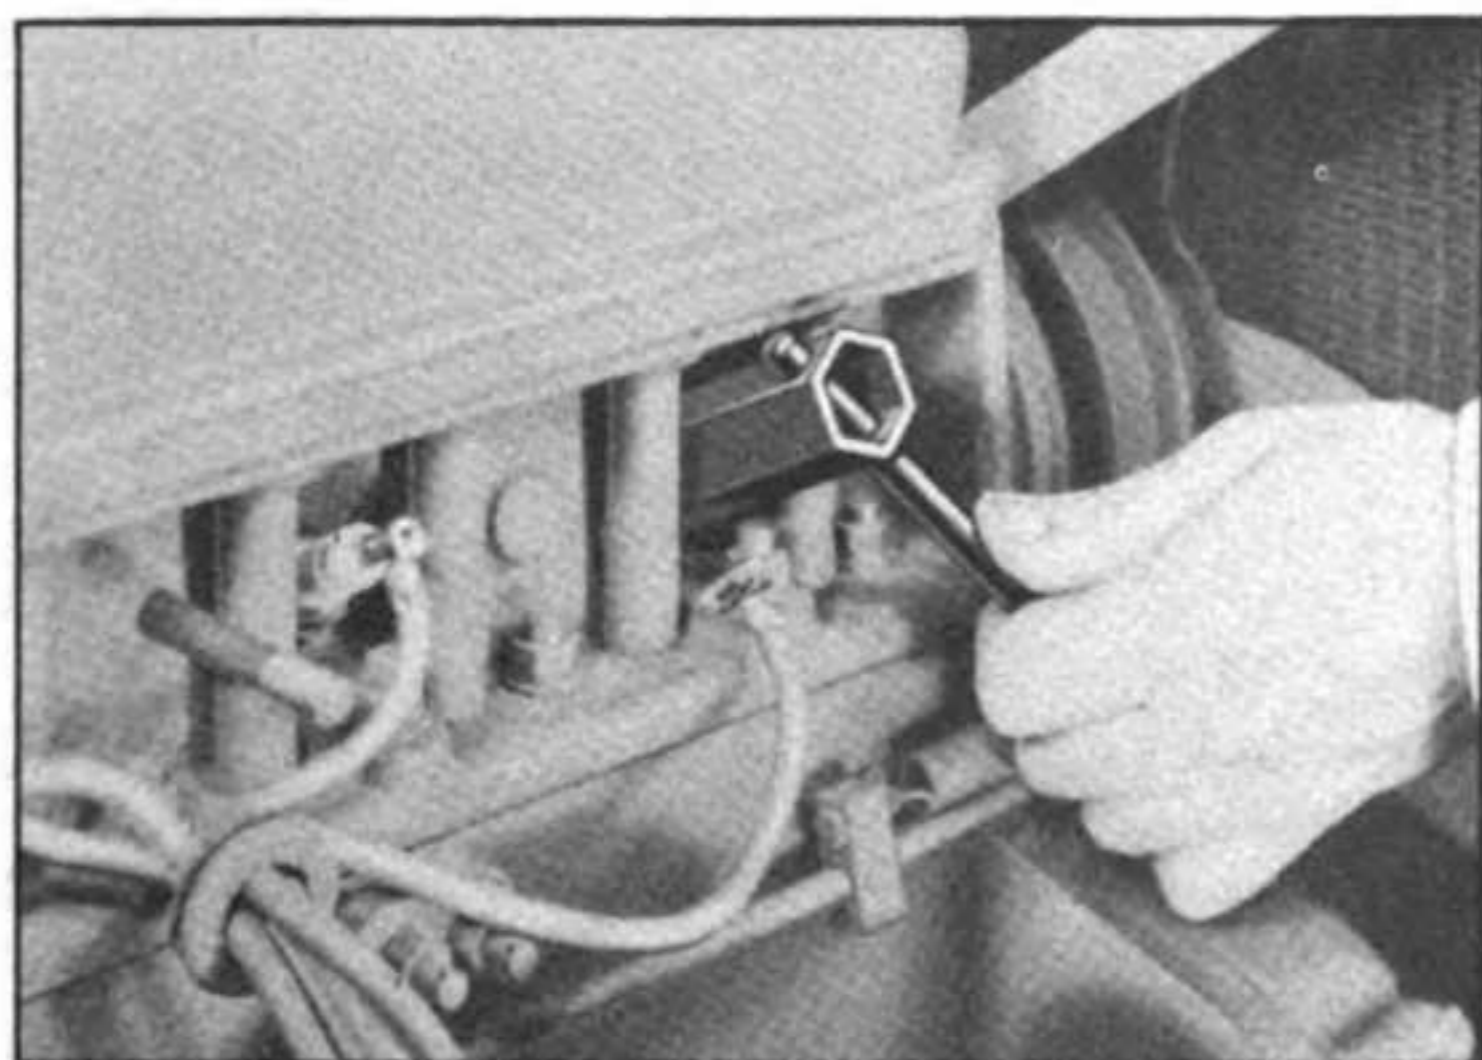

Figure 5 – Installing Spark Plugs with VT-3538 Spark Plug Wrench
(1) **SPARK PLUGS:** Use the socket wrench furnished with the tools for removing and installing the spark plugs, rather than pliers, open end, or adjustable wrenches. (Figure 5)